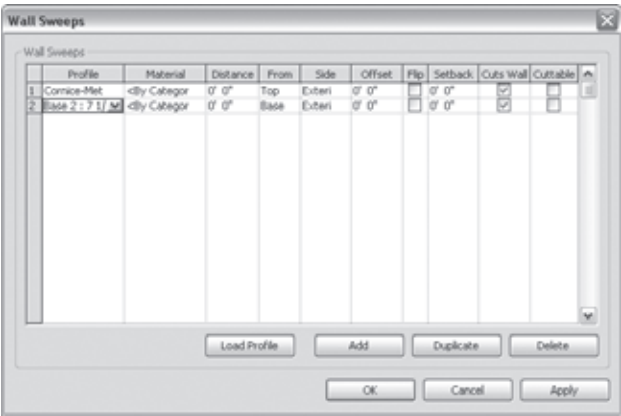

Figure 6.19
8. Set the Cornice profile's From value to Top and the Base profile's From value to Base. Doing so attaches the profiles to the top and bottom of your wall. Figure 6.19 shows the profiles loaded in the wall.